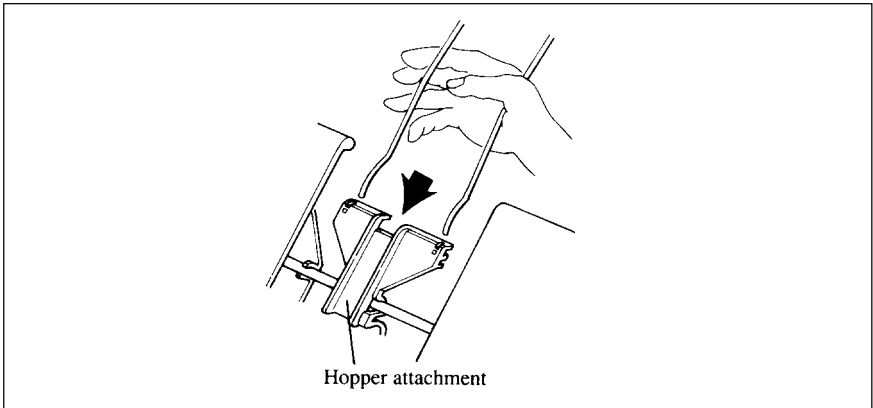

Figure 7-5. Insert the hopper attachment.
7. Insert the hopper attachment on top of the hopper support section as shown in Figure 7-5.